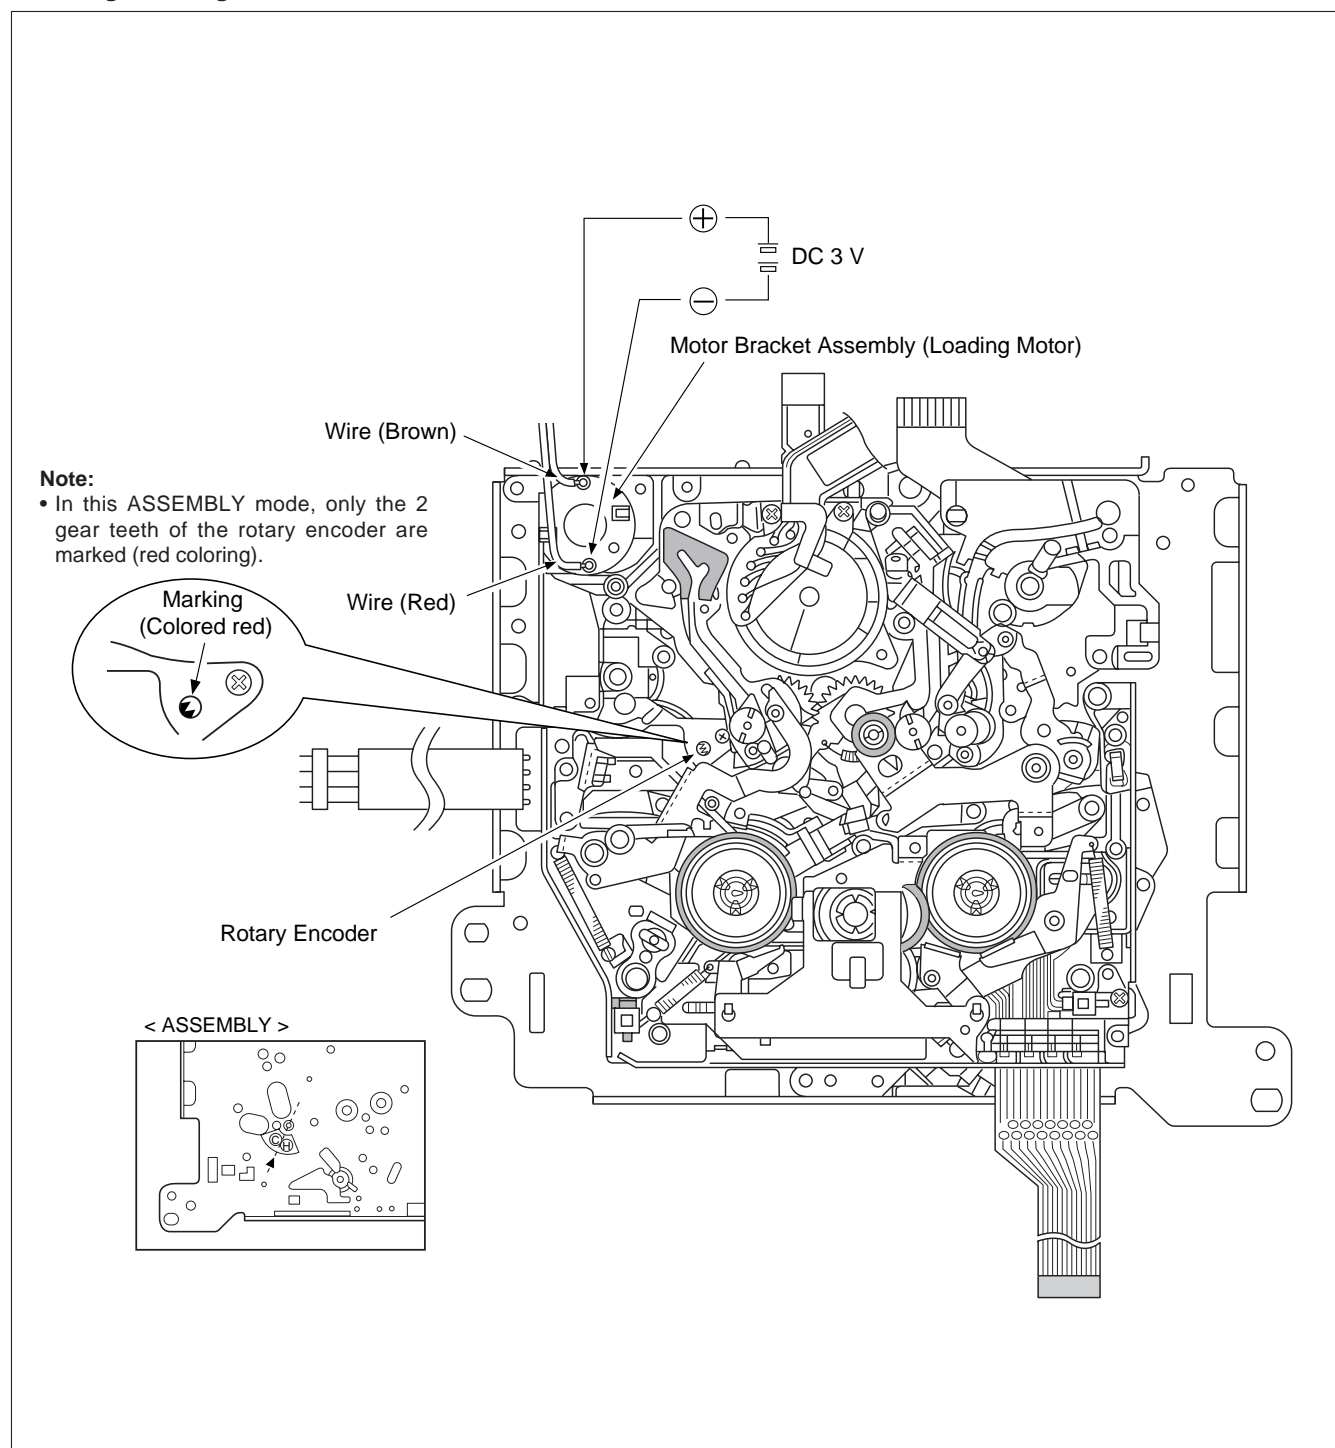

Fig. 2-5-7
To set the ASSEMBLY mode, apply 3 V DC to the electrodes on the upper part of the loading motor as shown in Fig. 2-5-7.
- *This mechanism assembly has another ASSEMBLY mode. However, this mode cannot be identified from the markings because it corresponds to an intermediate position between the C-IN (C) mode and S-FF (H) mode. This mode can be confirmed by the rotary encoder phase. See Fig. 2-5-7.*